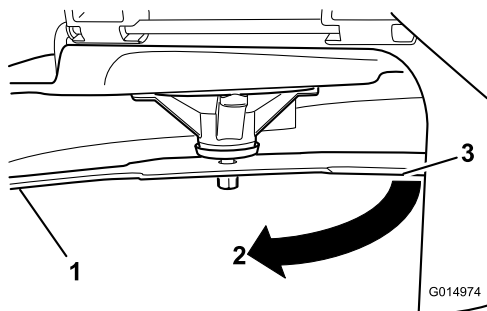

Figure 54
4. Rotate the same blade 180 degrees so that the opposing cutting edge is now in the same position (Figure 54).